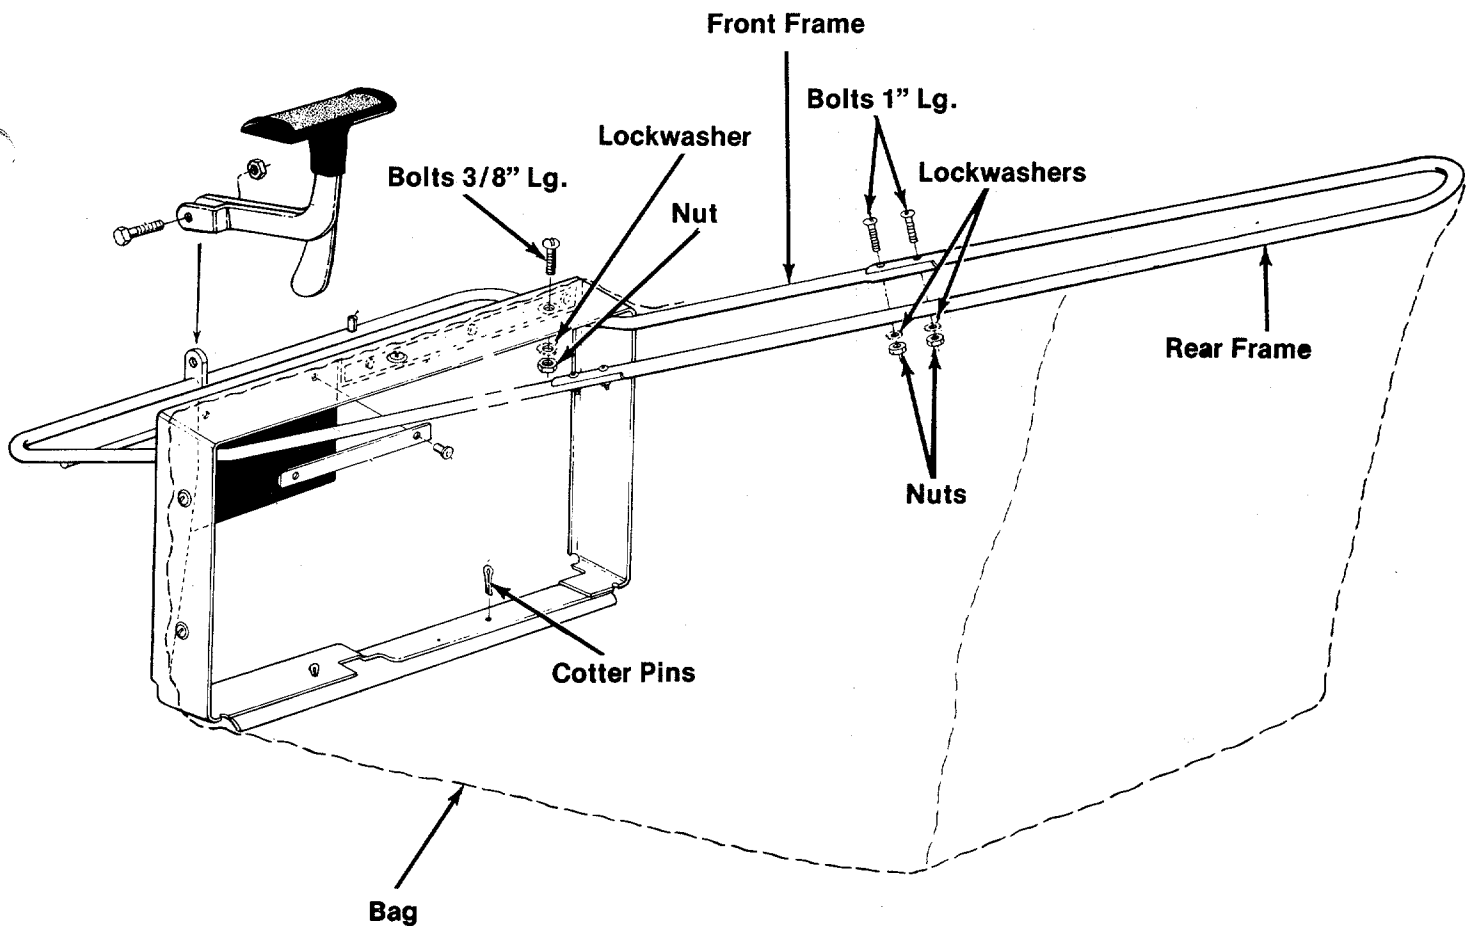

FIGURE 4
1. Assemble the rear frame to the front frame with the four 1" bolts, lockwashers and nuts. See figure 4.